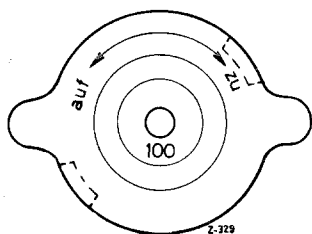

Figure 20-1/3
Check operating ease of the valves (3) and (4) in the radiator filler cap. The vacuum valve (4) should not stick, because the upper tank of the radiator can be contracted by the existing vacuum (Figure 20-1/2).